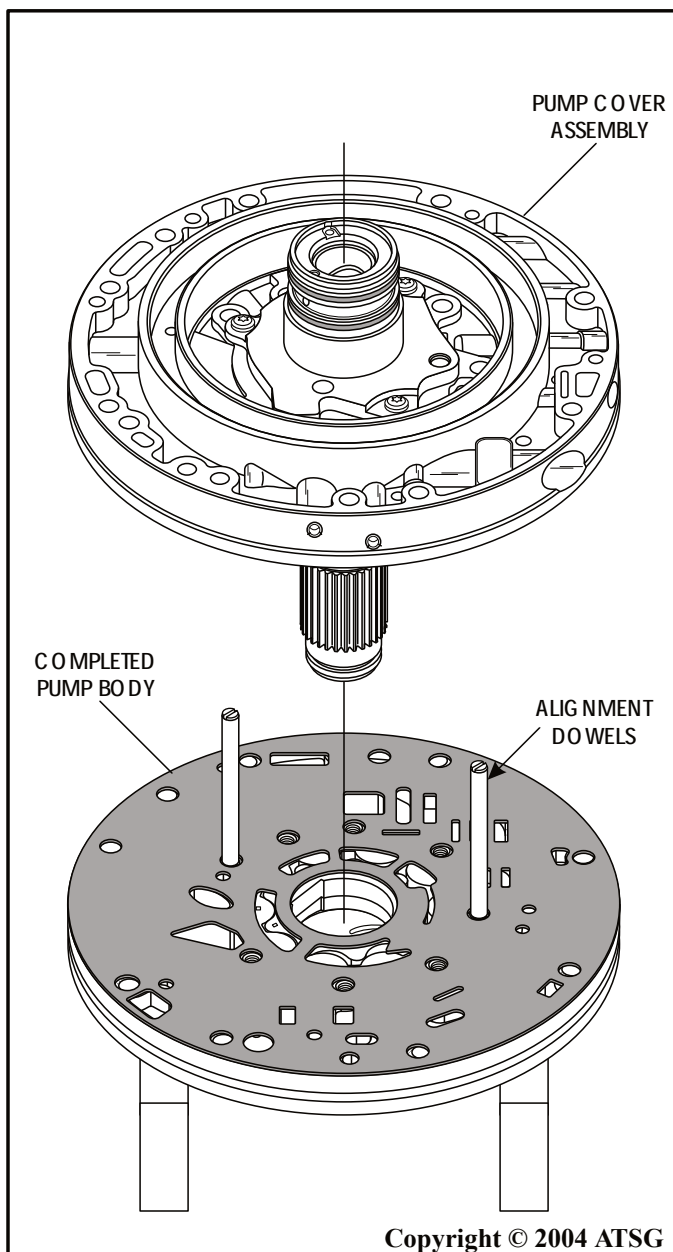

Figure 89
17. Install the completed pump cover assembly over the dowels, as shown in Figure 89.